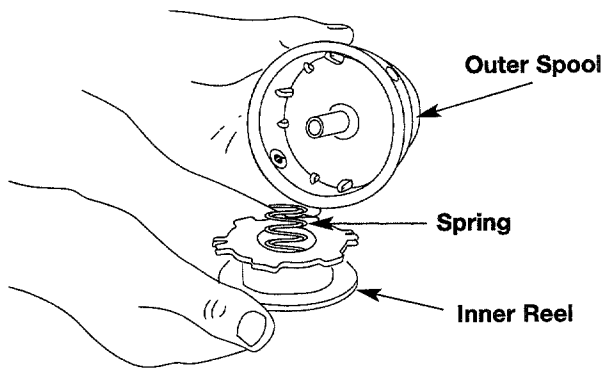

Figure 22
2. Remove the inner reel from the outer spool. See Figure 22.
3. Remove spring from the inner reel. See Figure 22.
2. Remove the old inner reel from the outer spool. See Figure 22.
3. Remove the spring from the old inner reel. See Figure 22.